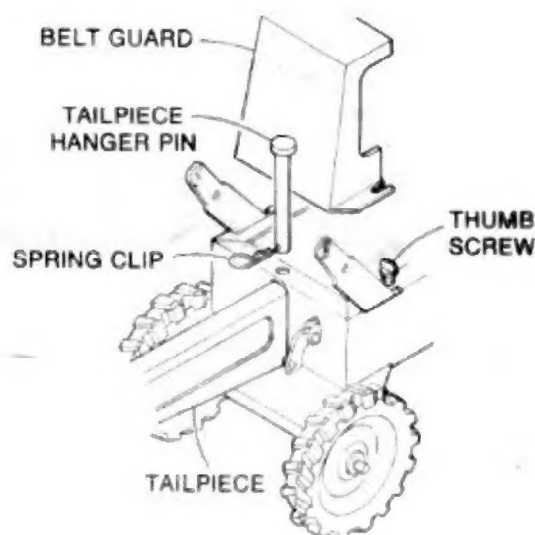

FIG. 2
3. Attach the tailpiece to the rear of main frame, Fig. 2.
Place tailpiece into opening in rear of main frame. Line up holes and replace the hanger pin as shown in Fig. 2. Secure with the spring clip.